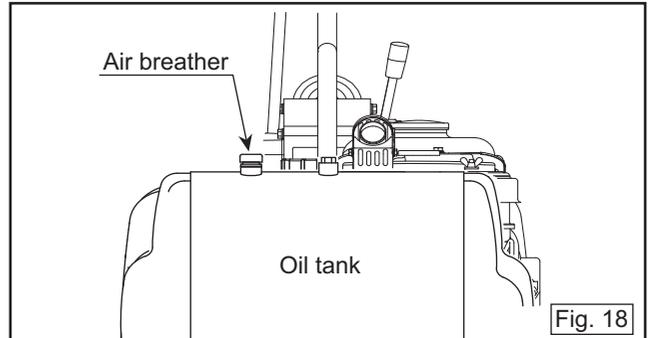

Fig. 18
4. There is an air breather onto the oil tank and place a cover to prevent water entry into the oil tank. Make sure the cover does not fall off due to high pressure cleaning and other activity. (Fig. 18)